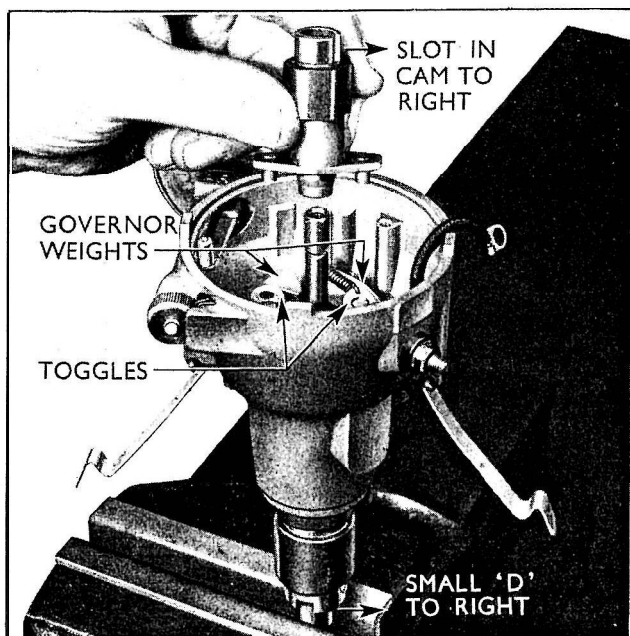

Fig. 246
- 6 Refit the distributor cam assembly to the shaft and ensure that it turns smoothly without looseness. Engage the cam pegs in the outer holes of the toggles with the rotor slot in the cam towards the small "D" of the shaft driving collar (see Fig. 246).